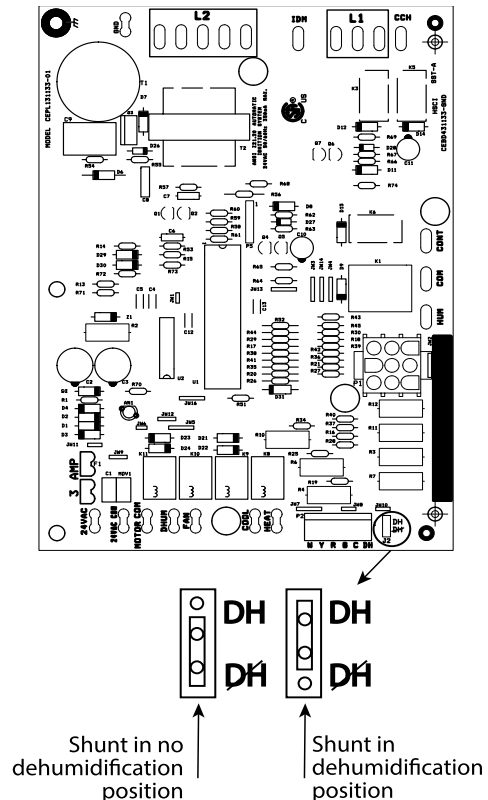

Fig. 13 – Single Phase IGC Board
This unit is factory-set for use with a single cooling fan speed. For single phase models, the cooling speed is marked “COOL” on the IGC (See Fig. 13). The factory-shipped settings are noted in Table 7. There are up to 3 additional speed tap wires available for use in either gas heating mode, cooling mode, or continuous fan mode (For color coding on the indoor fan motor leads, see Table 6). For single phase models, one of the additional speed tap wires is connected to the continuous fan, with the other 2 wires shipped loose in the control box near the IGC.
1. Move shunt jumper on IGC board to “DH” (See Fig. 13).